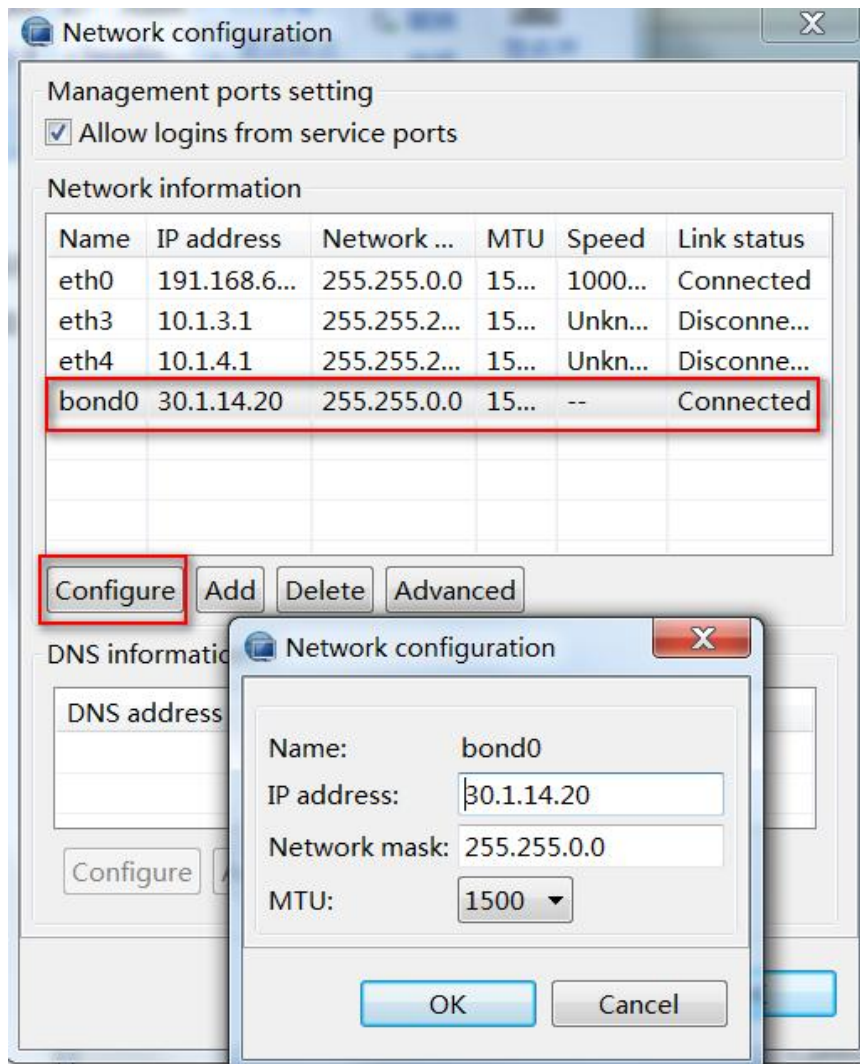

Figure 10-15 Changing the bonding IP
(7) To debond, select the **[Server Maintenance > Bond Interface]** menu item to select the bond to be debonded, and click the **[Debond]** option, as shown in the Figure10-15: